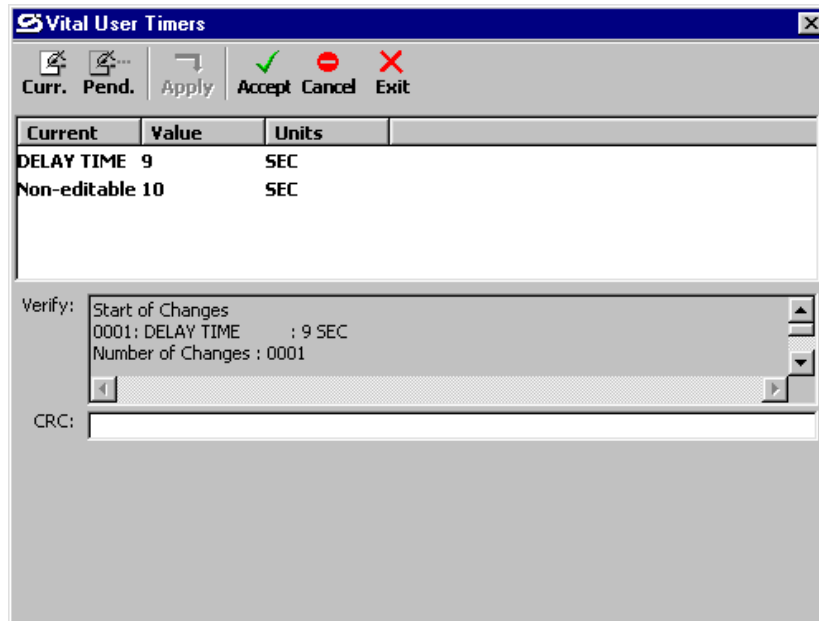

Figure 3-55
9. After all value changes are completed using the process just described, click on **Apply** at the top of the **Vital User Timers** screen. The GDT sends the changes to the GEO™ unit which processes the changes and then returns data that is displayed in the GDT “Verify” list box (see figure 3-55). Note that the **Apply** button becomes inactive after being clicked on.